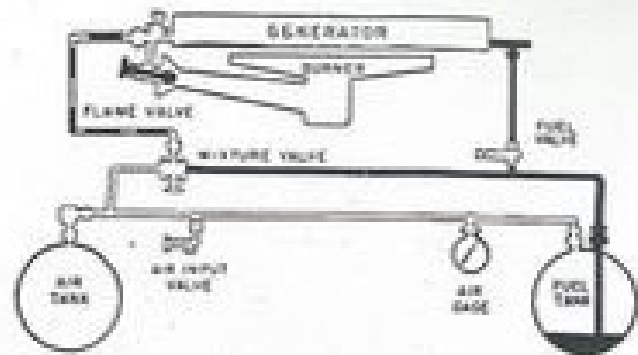

Figure 8. Schematic diagram of fire unit fuel system.
9. Principles of Fire Unit Operation (fig. 8)